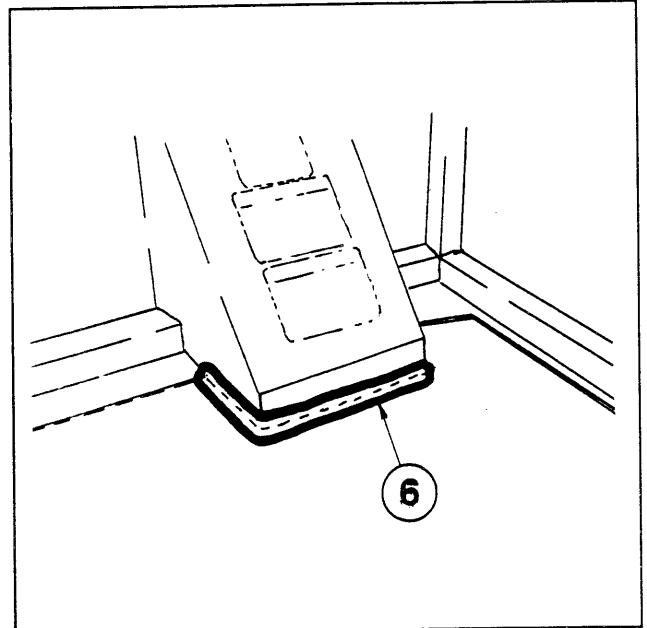

Figure 4
8. Move to the cab. Locate the boxing at the rear of the cab and slide 180° O-rubber (6) onto the bottom edge (see Figure 4).
9. Take the 90° O-rubber (7) and slide it onto the rear and side cab panels. Beginning at the front of the left, side panel work your way back and up to the boxing in step 5. Skip over the boxing and continue across the width of the